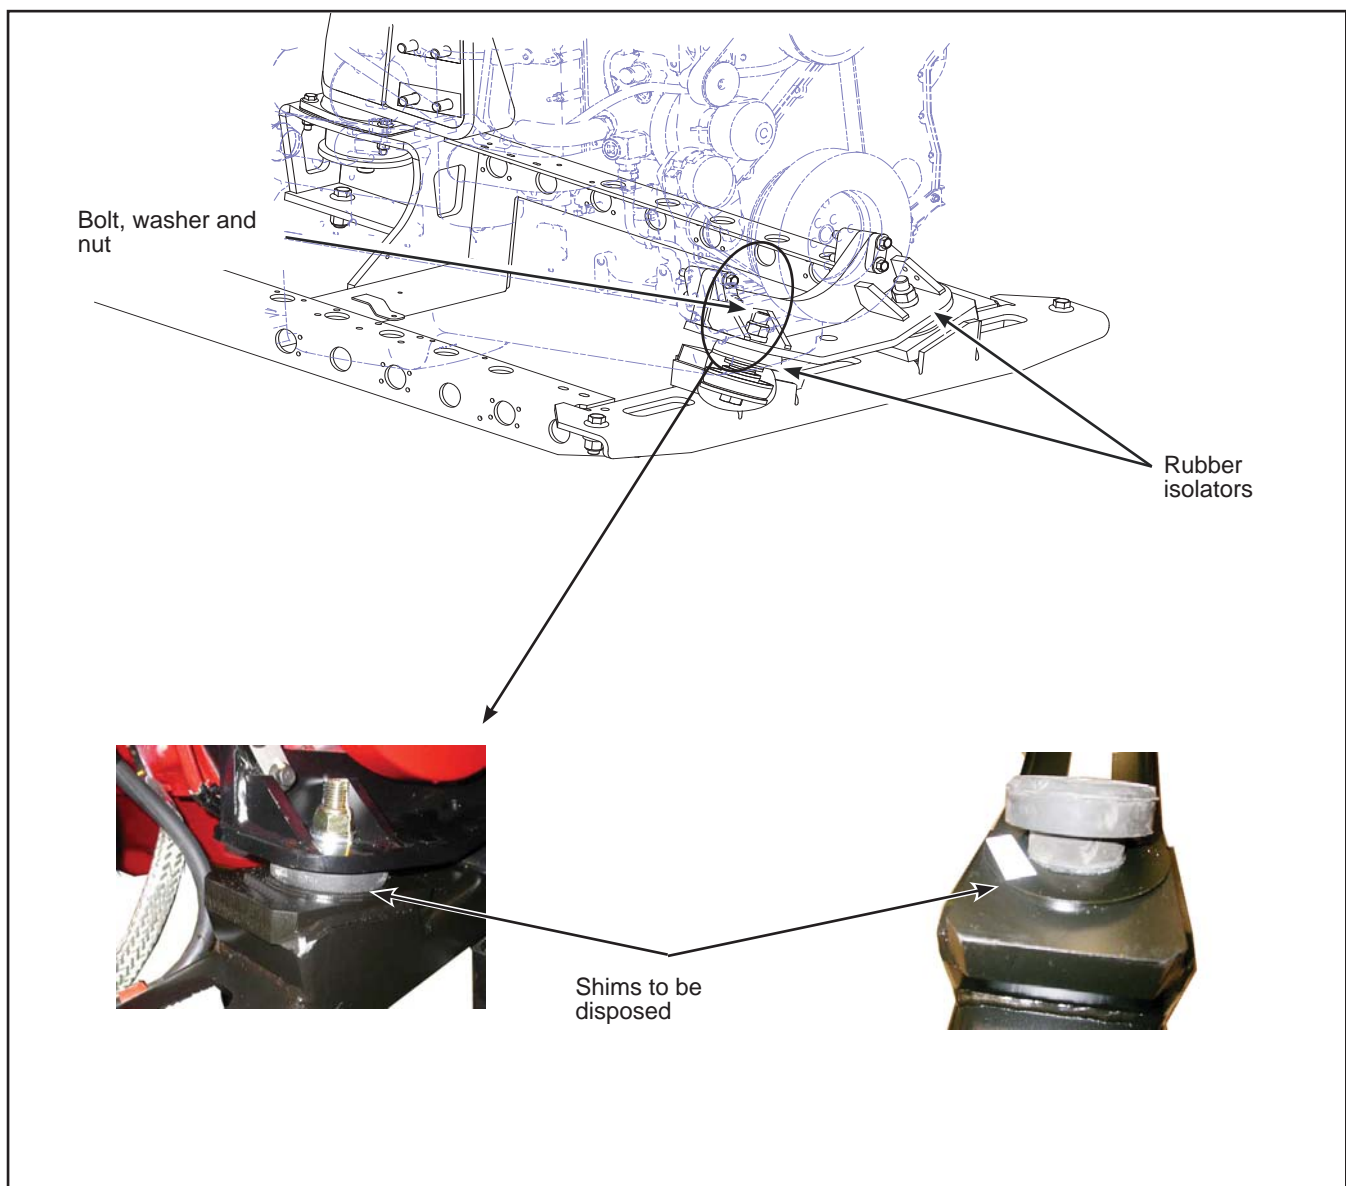

Figure 10 - Location of Rubber isolators
- 1.30. Remove the two bolts that retain the rubber isolators to the cradle. Retain the hardware. See Figure 10.
- 1.32. Remove the two rubber isolators from the cradle. See Figure 10.